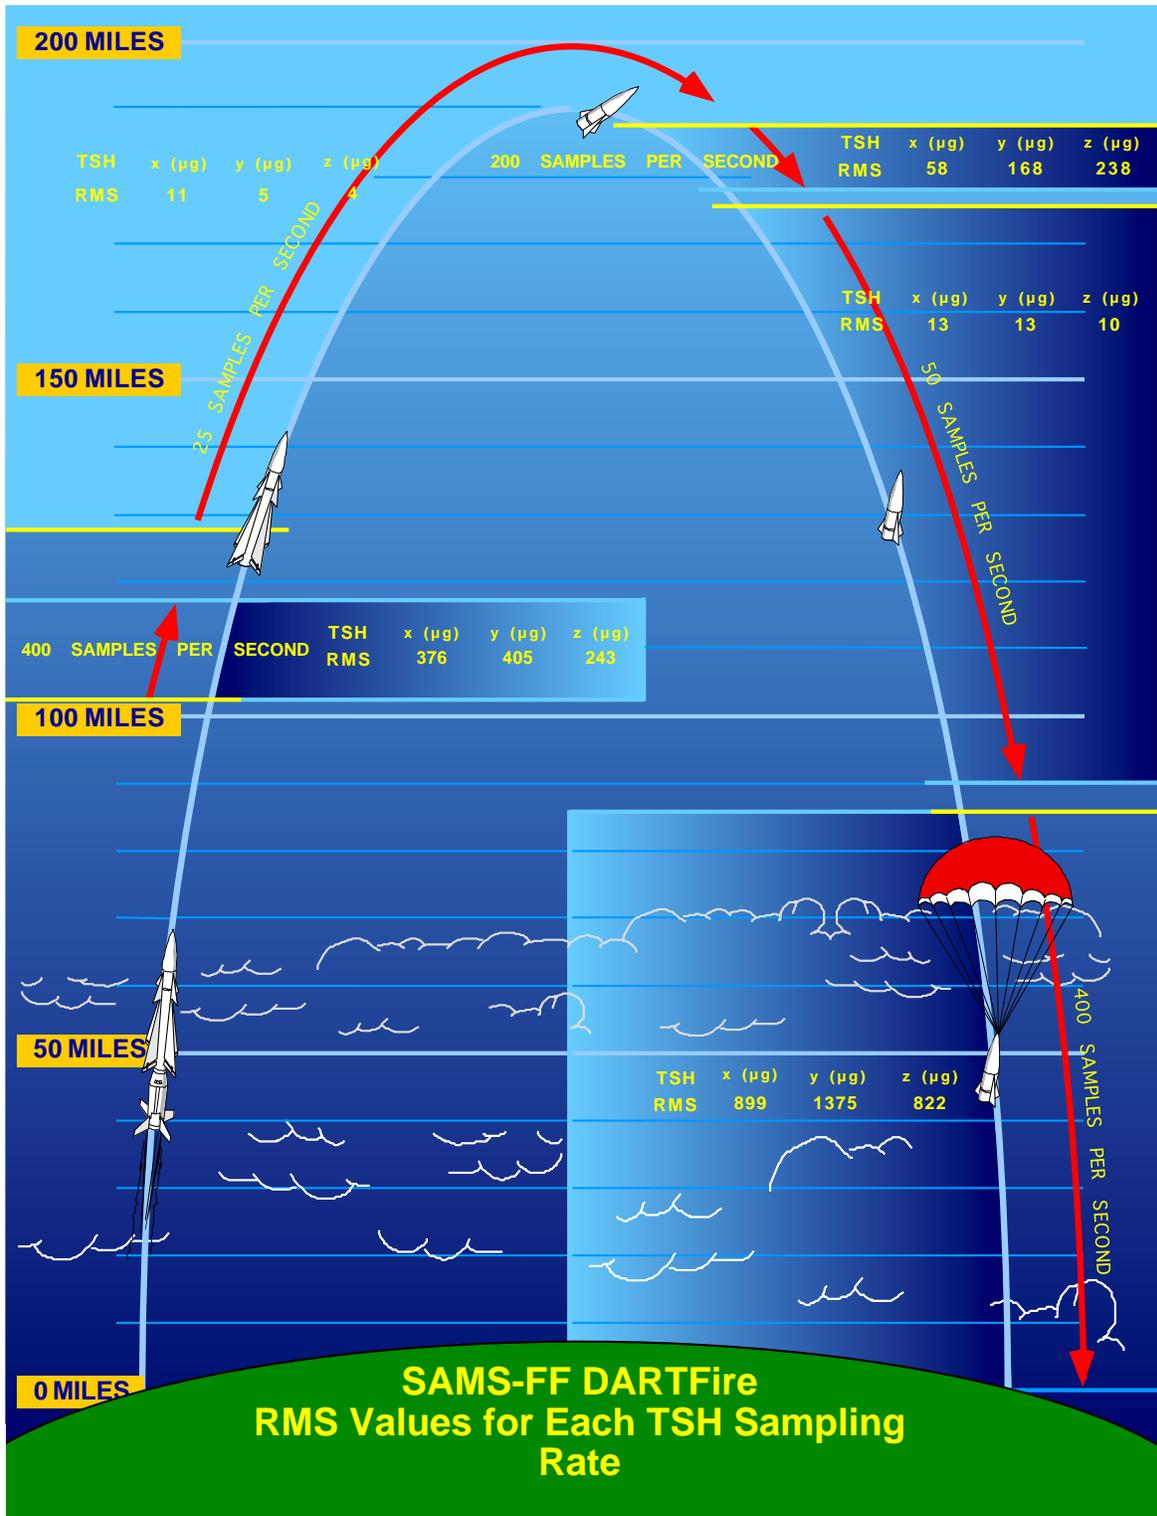

Figure 11-1
- **Terrier-Black sounding rocket DARTFire flight timeline is shown in the graphic in Figure 11-1**